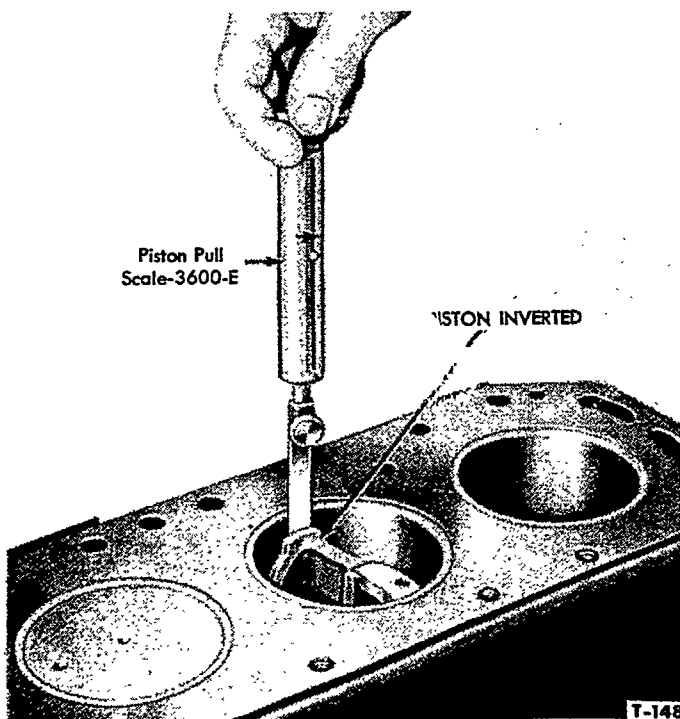

Figure 45—Fitting Pistons
6. Position the feeler ribbon on the side of the piston 90° from the piston pin hole. Invert the piston, then push the piston and feeler gauge into the cylinder so that the end is about $\frac{1}{4}$ " below the top of the block. Keep the piston pin bores parallel with the crankshaft axis. Pull out the feeler gauge while noting the scale reading, see Figure 45.